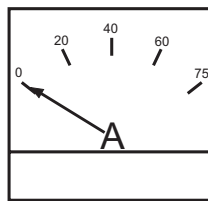

**Figure 68. Voltage Meter (Volts)**
12. The generator's voltage meter (Figure 68) displays the 120 VAC in **VOLTS**. If the voltage is not within the specified frequency tolerance, use the voltage adjustment control knob (Figure 69) to increase or decrease the desired voltage.